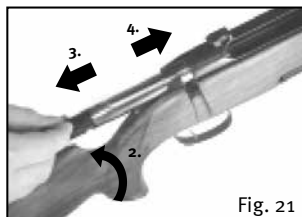

Fig. 10
Firing Position (Fig. 10):
3. Move rotary safety slide to “Firing” position (Fig. 10) and lock the bolt handle while simultaneously pulling the trigger (to prevent cocking of the firing pin). When doing so, the indicator pin at the rear of the bolt sleeve will disappear.
Make certain the weapon is unloaded and the safety is on “Firing position” (Fig. 10). The bolt handle is open.